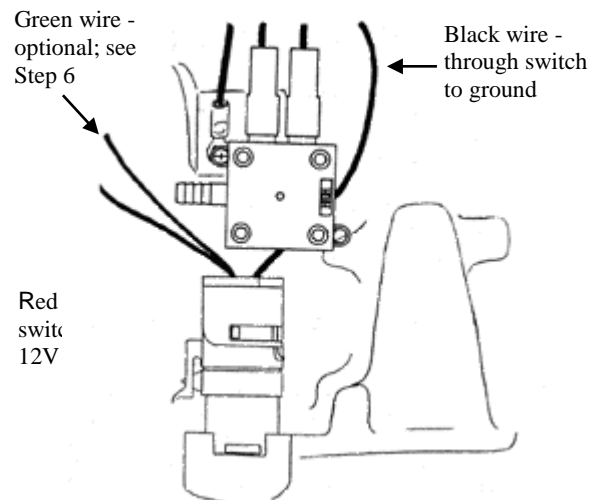

Figure 4: External Wiring Configuration
Step 5 — Figure 4 shows how the external wiring harness is intended to be connected. To use the #4 machine screw to retain the switch to the case, a new 3/32" hole must be drilled in the mount boss. If floor pan clearance is a problem then secure the ring terminal to the mount boss on the case to provide a good ground and secure the switch to the wiring harness with electrical tape so that it does not bang around. Some 2004R's may have an interface problem between the TCI® harness and the OEM case connector. To correct this problem, obtain case connector number 8634383 from a GM dealer. This will allow the TCI harness to snap into place. Using 18-gauge wire, run a 12-volt source to the red wire on the harness (Terminal A). Connect the vacuum switch to a ported vacuum source on the carburetor or throttle body. (If you find that the TCC operation is erratic in your application, then you may try moving the vacuum source to the manifold.) The TCC is now set to engage automatically in 4th gear only when engine vacuum is